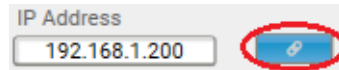

Figure 5 – Screenshot of IP Address text field and Link button.
5. Enter the IP Address of the Mezzo you wish to control into the text field (Figure 5).
6. Click on the *Link* button to begin the initial amp settings read process and to begin the polling/connection scheme (Figure 5).